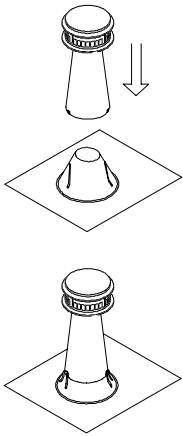

Fig 15
1. **Description.** The **Combination Top**, provides an easily installed, safe and efficient B-Vent **Top and Flashing**, as one lightweight unit. The two basic components and the assembled unit are shown in Figure 15. The **Combination Top** is designed to accommodate roof pitches from flat to 6/12, and is available for 3" through 6" diameter B-Vent pipe.